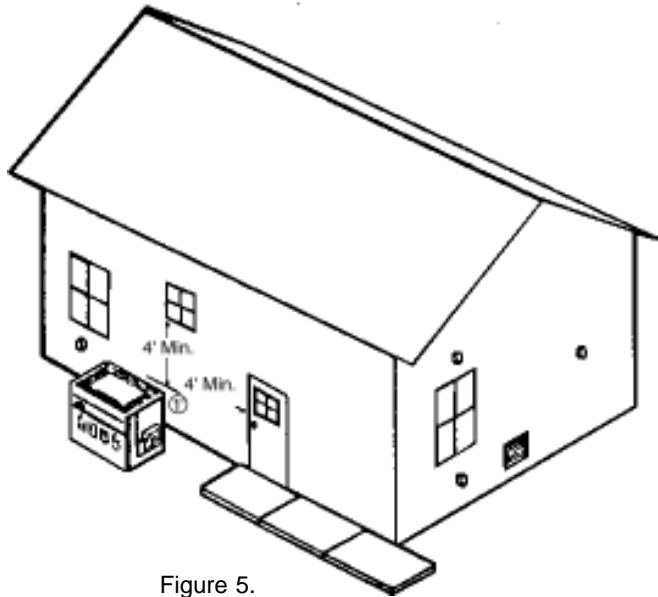

Figure 5.
Overhangs must be such that flue products are not diverted into living spaces. Heaters installed under overhangs must be protected from direct roof water drainage by gutters and the like. From the point where the flue products leave the heater, that point **MUST** be a minimum of four (4) feet below, four (4) horizontally from or one (1) foot above any door, window or gravity inlet into the building; see Figure 5.